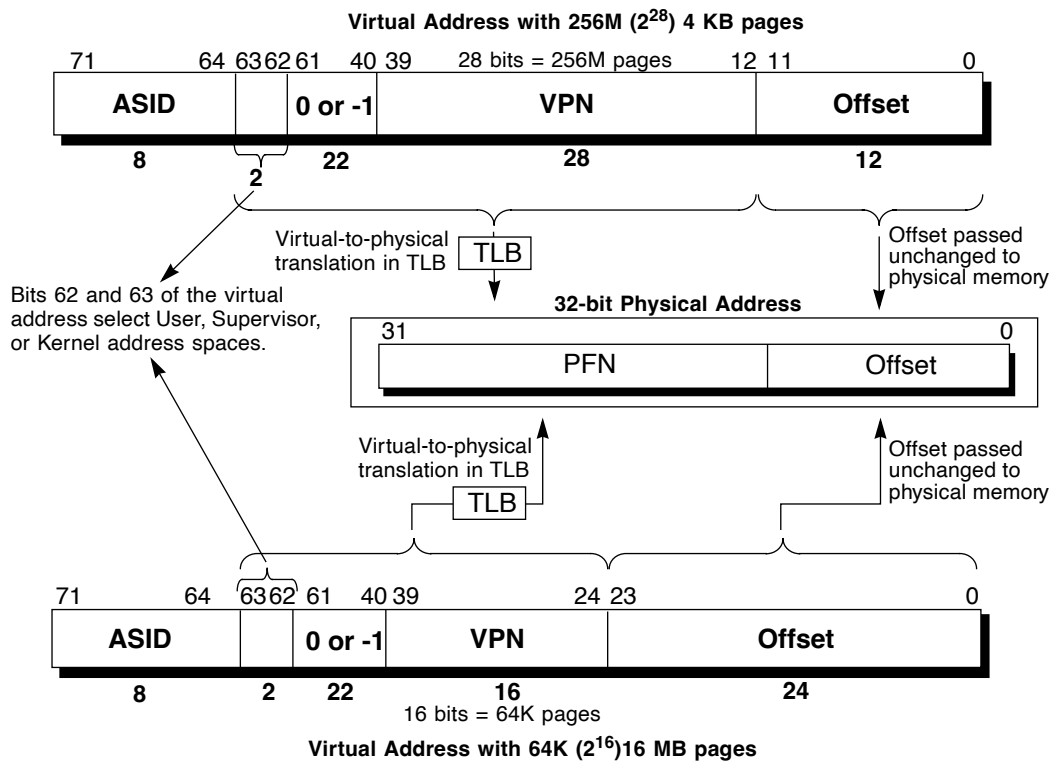

Figure 5-3 64-Bit Mode Virtual Address Translation
Figure 5-3 shows the virtual-to-physical-address translation of a 64-bit mode address. This figure illustrates the two of seven possible page sizes: a 4 KB page (12 bits) and a 16 MB page (24 bits).
- The top portion of Figure 5-3 shows a virtual address with a 12-bit, or 4 KB, page size, labelled *Offset*. The remaining 28 bits of the address excluding ASID represent the VPN, and index the 256M-entry page table.
- The bottom portion of Figure 5-3 shows a virtual address with a 24-bit, or 16 MB, page size, labelled *Offset*. The remaining 16 bits of the address excluding ASID represent the VPN, and index the 64K-entry page table.